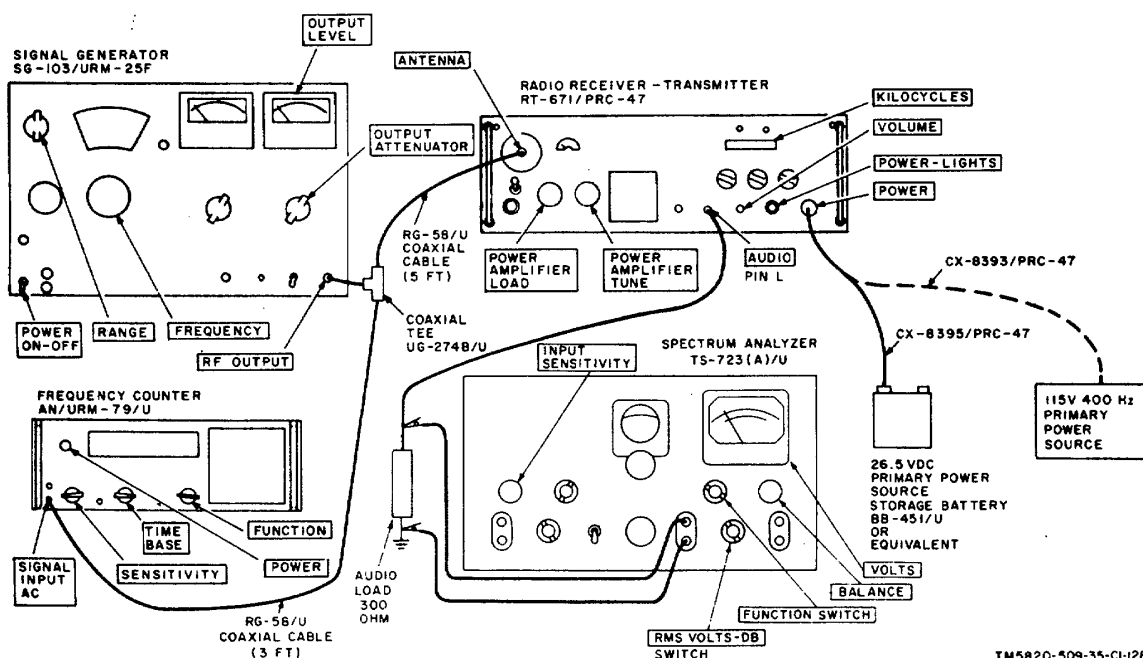

Figure 4-1. Receiver Sensitivity, AVC Selectivity, IF. Rejection, Image Rejection, and Volume Control Tests, Equipment Setup.
(fig. 4-1)
(1) Connect the test equipment to Radio Receiver-Transmitter RT-671/PRC-47 as shown in figure 4-1.
(2) Connect the 115-volt primary power source to the receiver-transmitter.
(3) Turn on the test equipment and place the POWER-LIGHTS switch of RT-671/PRC-47 to POWER ON. Permit the equipment to stabilize for at least 6 minutes before beginning the procedures shown in the chart below.
(1) Connect the test equipment to Radio Receiver-Transmitter RT-671/PRC47 as shown in figure 4-1.
(2) Connect the primary power source to the receiver-transmitter.
(3) Turn on the test equipment and place the POWER-LIGHTS switch of RT-671/PRC 47 to POWER ON. Permit the equipment to stabilize for at least 5 minutes before beginning the procedures shown in the chart below.
(3) Turn on the test equipment and place the POWER-LIGHTS switch of RT-671/PRC-47 to POWER ON. Permit the equipment to stabilize for at least 5 minutes before beginning the procedures shown in the chart below.
(3) Connect the primary power source to the receiver-transmitter.
(3) Turn on the test equipment and place the POWER-LIGHTS switch of RT-671/PRC 47 to POWER ON. Permit the equipment to stabilize at least 5 minutes before beginning the procedures shown in the chart below.